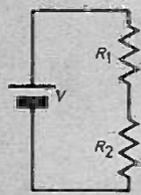

Fig. 1.
One way of understanding the bridge principle is to begin with a simpler circuit (Fig. 1). This has a battery and two resistances in series. The same current passes through each resistance. Common sense tells you that if the resistances are identi-
**Figs. 1 to 6. Showing the circuit arrangements to find resistance ratios and the derivation of the Wheatstone (Christie's) Bridge. Fig. 4 is the arrangement of nails and wire used to form a resistance.**
The Prof. continued to increase the voltage and as he did so, the line on the oscilloscope tube appeared to become broader and by adjusting the horizontal frequency and synchronization controls the Prof. caused a sawtooth triangular wave form to appear on the screen (Fig. 1). Bob noticed that alternate peaks of the sawtooth were at different heights on the screen.